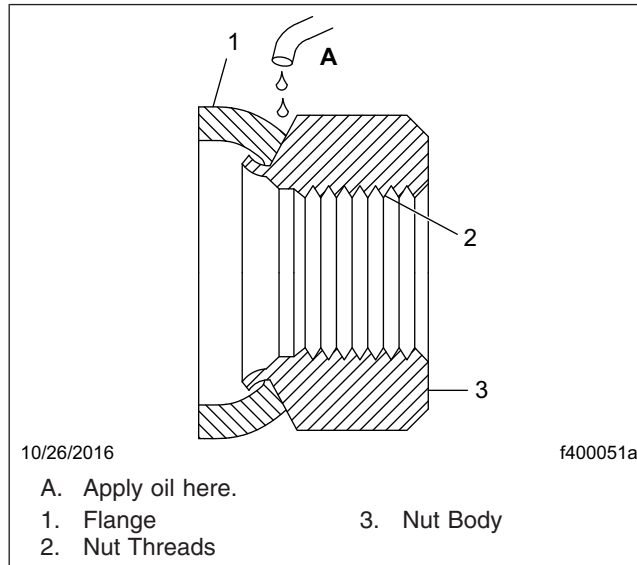

Fig. 15, Two-Piece Flange Nut
4. Apply a few drops of light engine oil to the wheel studs, the area between the body and the flange of each nut, and the hub pilot. Wipe off any excess oil. See Fig. 15 for lubrication of the two-piece flange nuts.